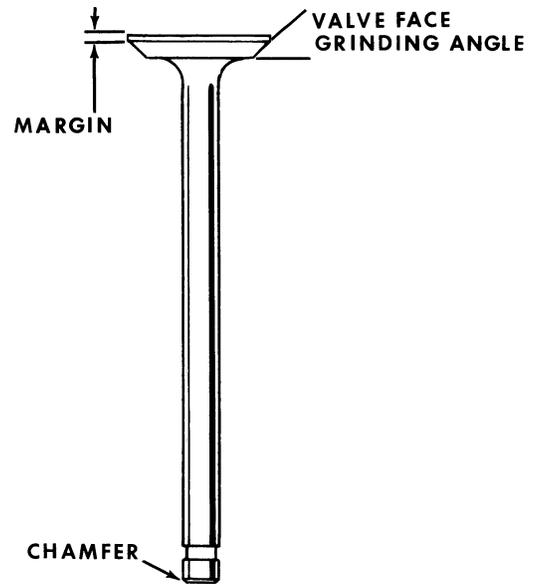

Figure K-22
**IMPORTANT** Replace any valve that after grinding has a thin edge or margin (Refer to Figure K-22). If the margin on the ground valve is less than half the margin on a new valve replace the valve.